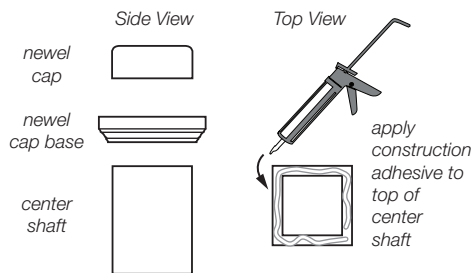

figure 10
1. Select flat top or pyramid cap. Apply construction adhesive to the top of the newel center shaft (figure 10).